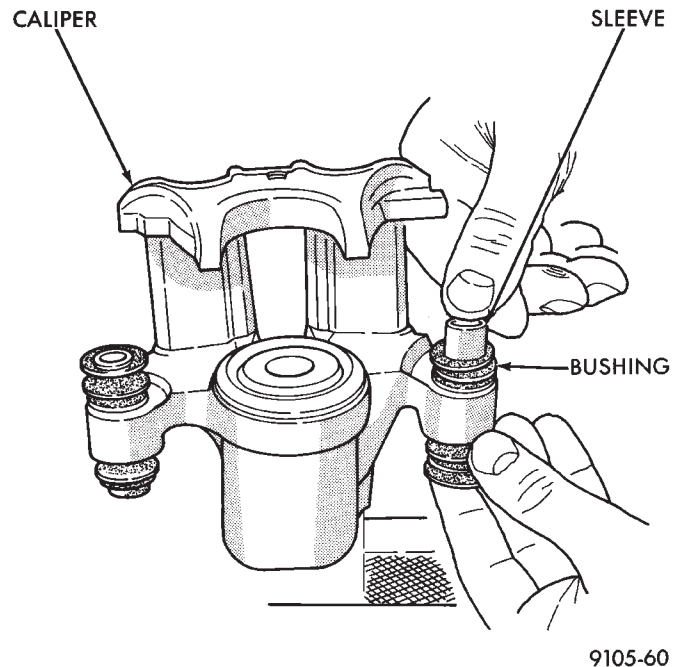

Fig. 169 Installing Sleeve In Bushing
(4) Lubricate the inside surfaces of the bushing using Mopar, Silicone Dielectric Compound or an equivalent.
(5) Install guide pin sleeve into one end of bushing until seal area of bushing is past seal groove in sleeve (Fig. 169).
(6) Holding convoluted boot end of bushing with one hand, push steel sleeve bushing through boot until one end of bushing is fully seated into seal groove on one end of sleeve (Fig. 169).